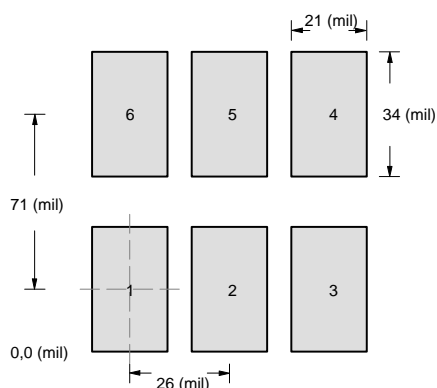
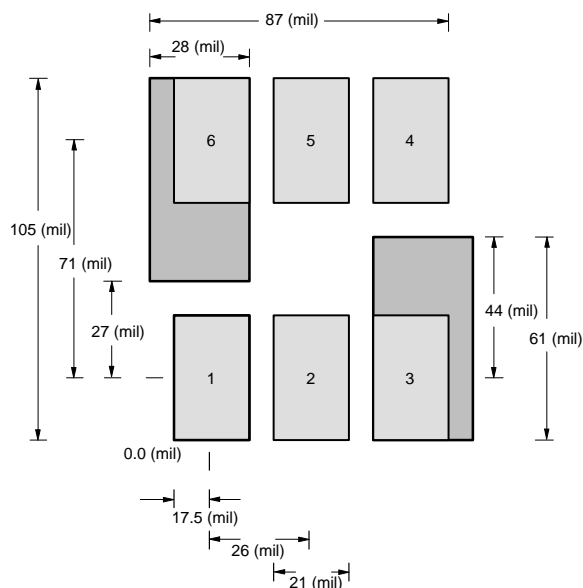

FIGURE 2. Basic Footprints
FIGURE 3. SC-70 (6 leads) Dual
The basic pad layout and dimensions for the 6-pin SC-70 are shown in Figure 2. This pad pattern is sufficient for the low-power applications for which this package is intended. Increasing the drain pad pattern (Figure 3) yields a reduction in thermal resistance and is a preferred footprint.
0.5 in. The copper pad traces are the same as in Figure 2. The board allows for examination from the outer pins to the 6-pin DIP connections, permitting test sockets to be used in evaluation testing.